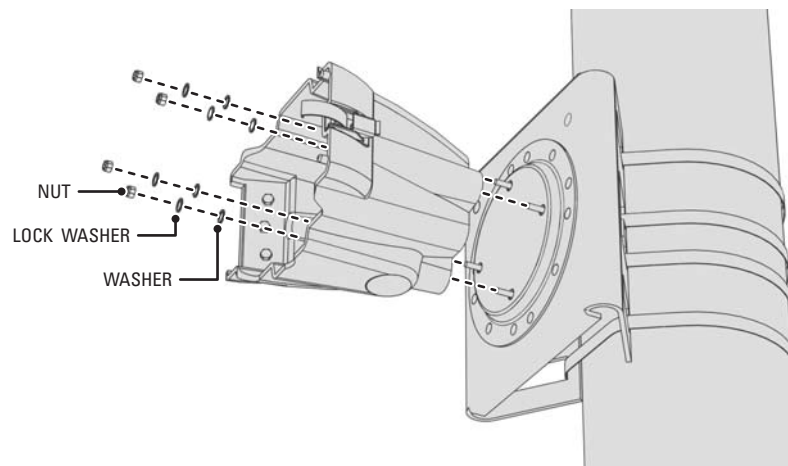

Figure 13. Installing the J-Box (*EWM shown*)
4. Secure the J-box to the mount (refer to Figure 13).
NOTE: The nuts, washers, and lock washers shown in Figure 13 are for illustration only. They are not supplied with the EW5002. Use the actual hardware from the mount to secure the J-box to the mount.